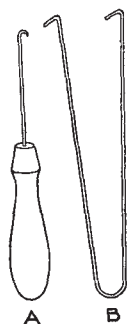

Fig. 114.
**Operation.** These machines are operated entirely by hand during the circular and also during the reciprocating movement required to make the heel and toe, the needle being raised and lowered by hand, by means of a working-hook (A in Fig. 114). The work is held down by means of weights.
dles down, and knit round and round for the hand forty or fifty rounds. Close off as in the toe of the stocking. While knitting the thumb hold down the strip with the left hand or heel hook (B in Fig. 114).